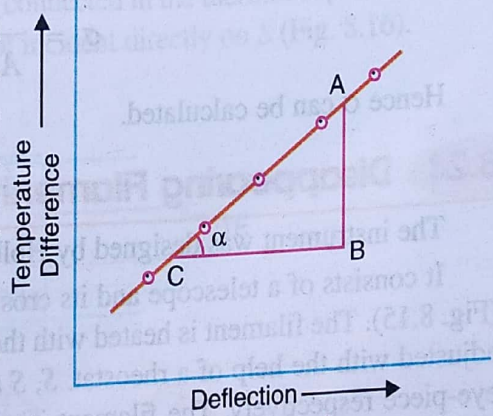
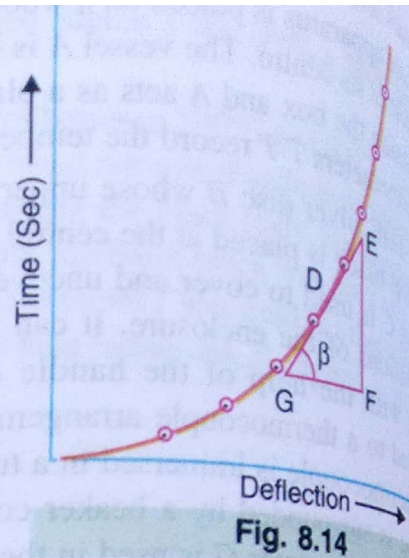

Fig. 8.13
Fig. 8.14
1. The thermocouple is first standardized. Before passing steam into the chamber, the disc B is at the room temperature. The water bath E acts as a hot junction. It is covered and at various temperatures of the hot junction, the corresponding deflections in the galvanometer are noted. A graph between the difference of temperature of the hot junction and the room temperature along the Y-axis and galvanometer deflection along X-axis is plotted (Fig. 8.13). From the graph,
2. The disc is completely covered with C and steam is passed into the chamber. After some time, the thermometers TT show constant temperature. The bath E is at room temperature. With the help of the handle H, the cover C is tilted so that the upper surface of the disc B receives the radiations from the enclosure. The deflections in the galvanometer are observed after equal intervals of time (say 10 seconds). A graph is plotted between time and deflection (Fig. 8.14). A tangent is drawn on the curve at a point D.
To find T_2 , the deflection in the galvanometer corresponding to the point *D* on graph in Fig. 8.14 is noted and for this deflection, the temperature difference from the graph (Fig. 8.13) is noted. To this reading add the room temperature and find T_2 in degrees Kelvin.